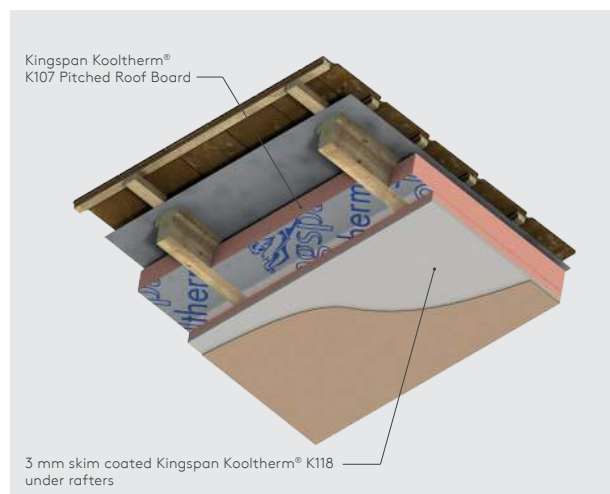

Figure 8: Mechanically fixed to timber rafters with Kingspan Kooltherm® K107 Pitched Roof Board between rafters
- Sheets of Kingspan Kooltherm® K118 may be used to line ceilings (see Figure 8).